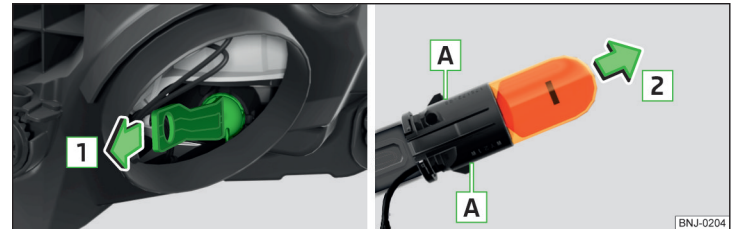

Fig. 304 Changing the bulb for the turn signal light
- › Remove the holder with the bulb by jiggling it out in the direction of the arrow **1** » Fig. 304.